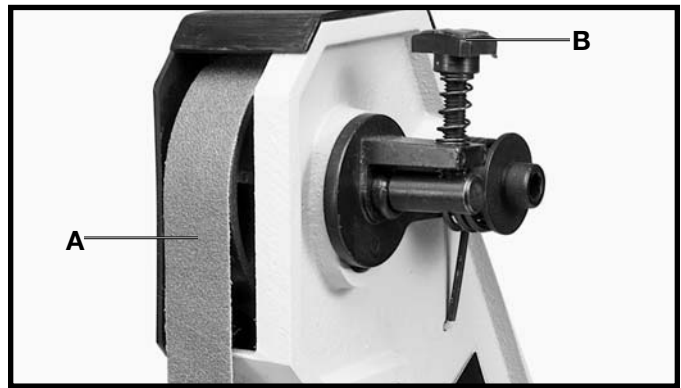

Fig. 23
The belt tracking adjustment is set at the factory so that the belt (A) Fig. 23, will run true on the pulleys. If, however, the belt (A) should lead to one side or the other on the pulleys, an adjustment can be made by turning the tracking knob (B). Turning the knob (B) clockwise will move the belt to the right when facing the sander. Turning the knob (B) counterclockwise will move the belt to the left. **TURN THE KNOB IN SMALL INCREMENTS TO ADJUST THE TRACKING.**